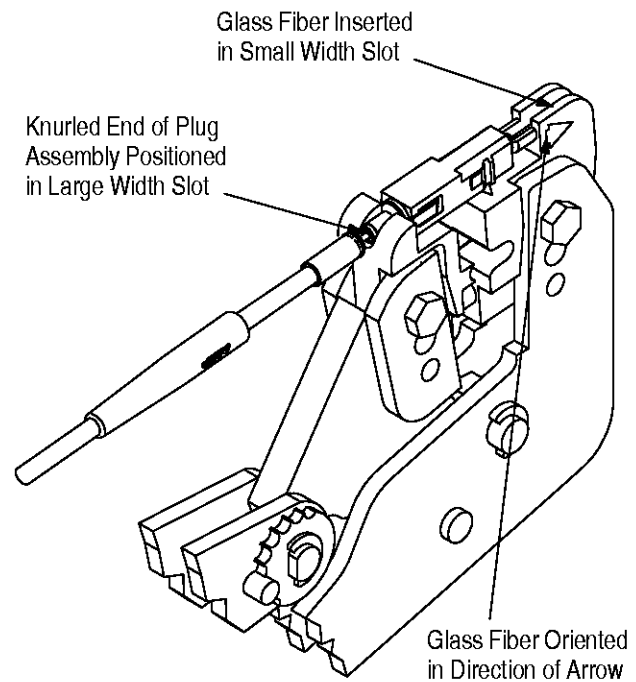

Figure 8
4. Position the plug assembly in the dies so that the glass fiber is oriented in the same direction as the arrow on the die set. Carefully insert glass fiber into the long slot of the die set. The knurled end of the plug assembly is positioned in the larger width slot of the die set. See Figure 8.
4. Position the plug assembly in the dies so that the glass fiber is oriented in the same direction as the arrow on the die set. Carefully insert the glass fiber into the long slot of the die set. The knurled end of the plug assembly is positioned in the larger width slot of the die set. See Figure 8.